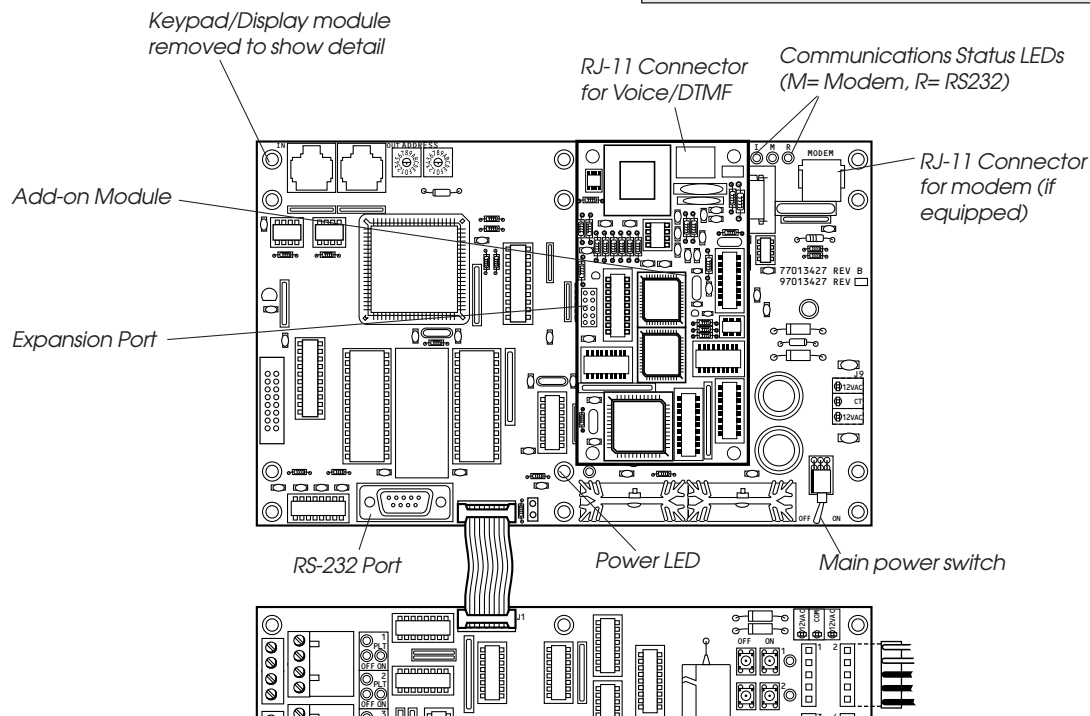

Figure A.3 – Voice/DTMF Module Installation (panel level)
1. If you are field-installing the module, power-down the controller and plug the module into the expansion port on the controller CPU board. (See Figure A.3.)